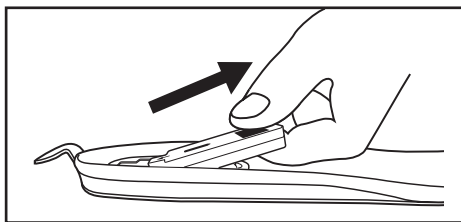

Figure 10
3. Gently pull the battery in a straight line away from the Insole (Figure 10).